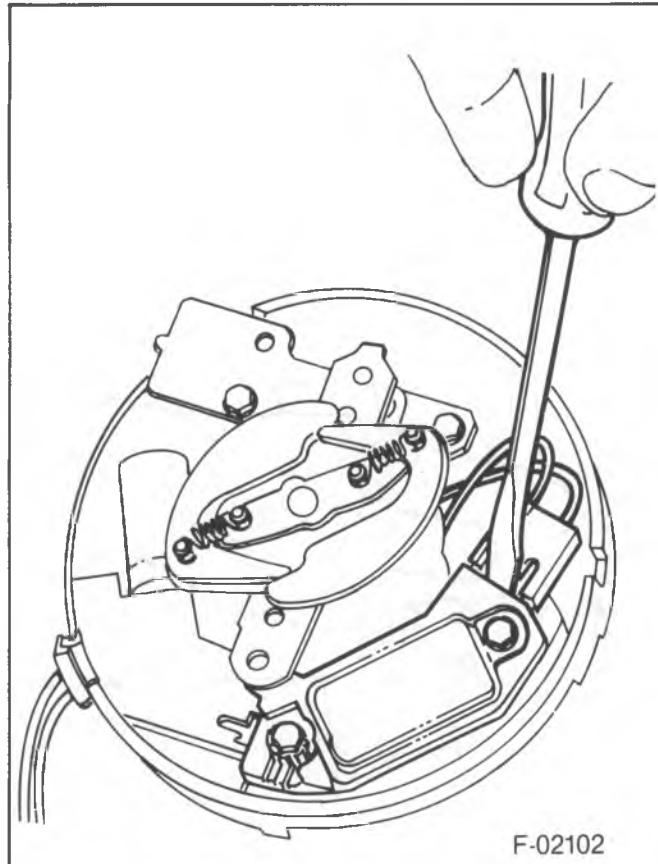

Figure 12—Removing the Pickup Coil Connector
17. Pickup coil connector from the module (figure 12).